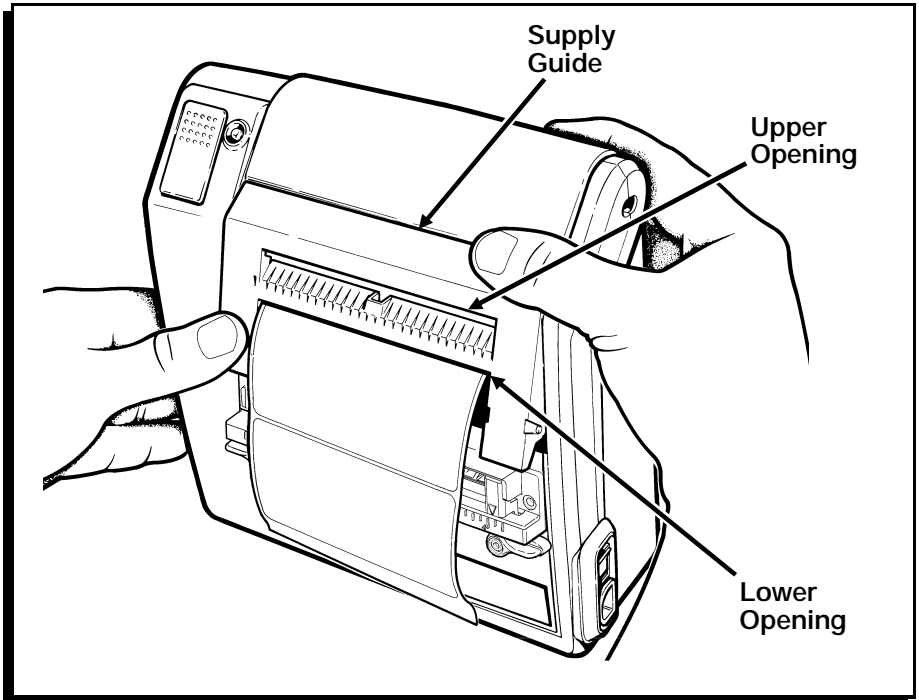

Figure 34
6. On-demand printing only: For peel mode printing, feed the supply strip through the lower opening in the supply guide. (Figure 34.) When you print, labels peel automatically through the top opening in the label guide and the backing paper exits out the bottom opening.